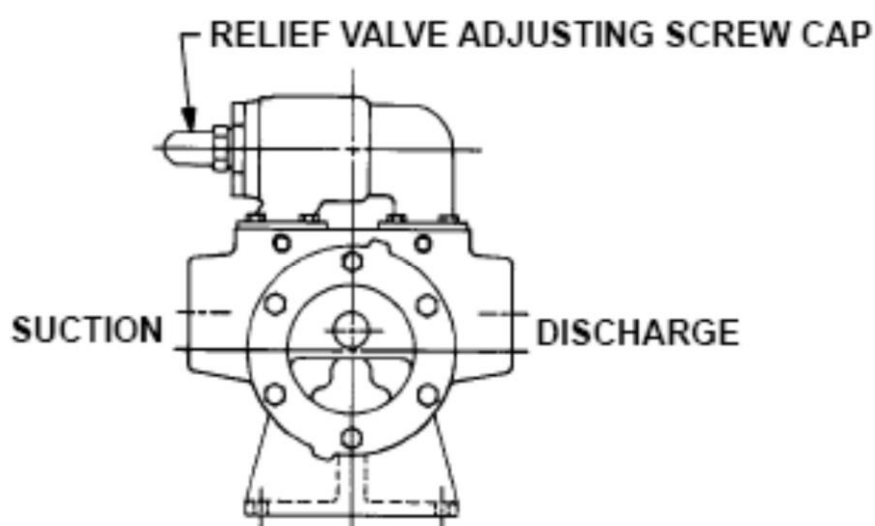

Figure 3.
3. Relief valve adjusting screw cap must always point towards suction side of Pump. If pump rotation is reversed, remove pressure relief valve and turn End for end. Refer to figure 3.